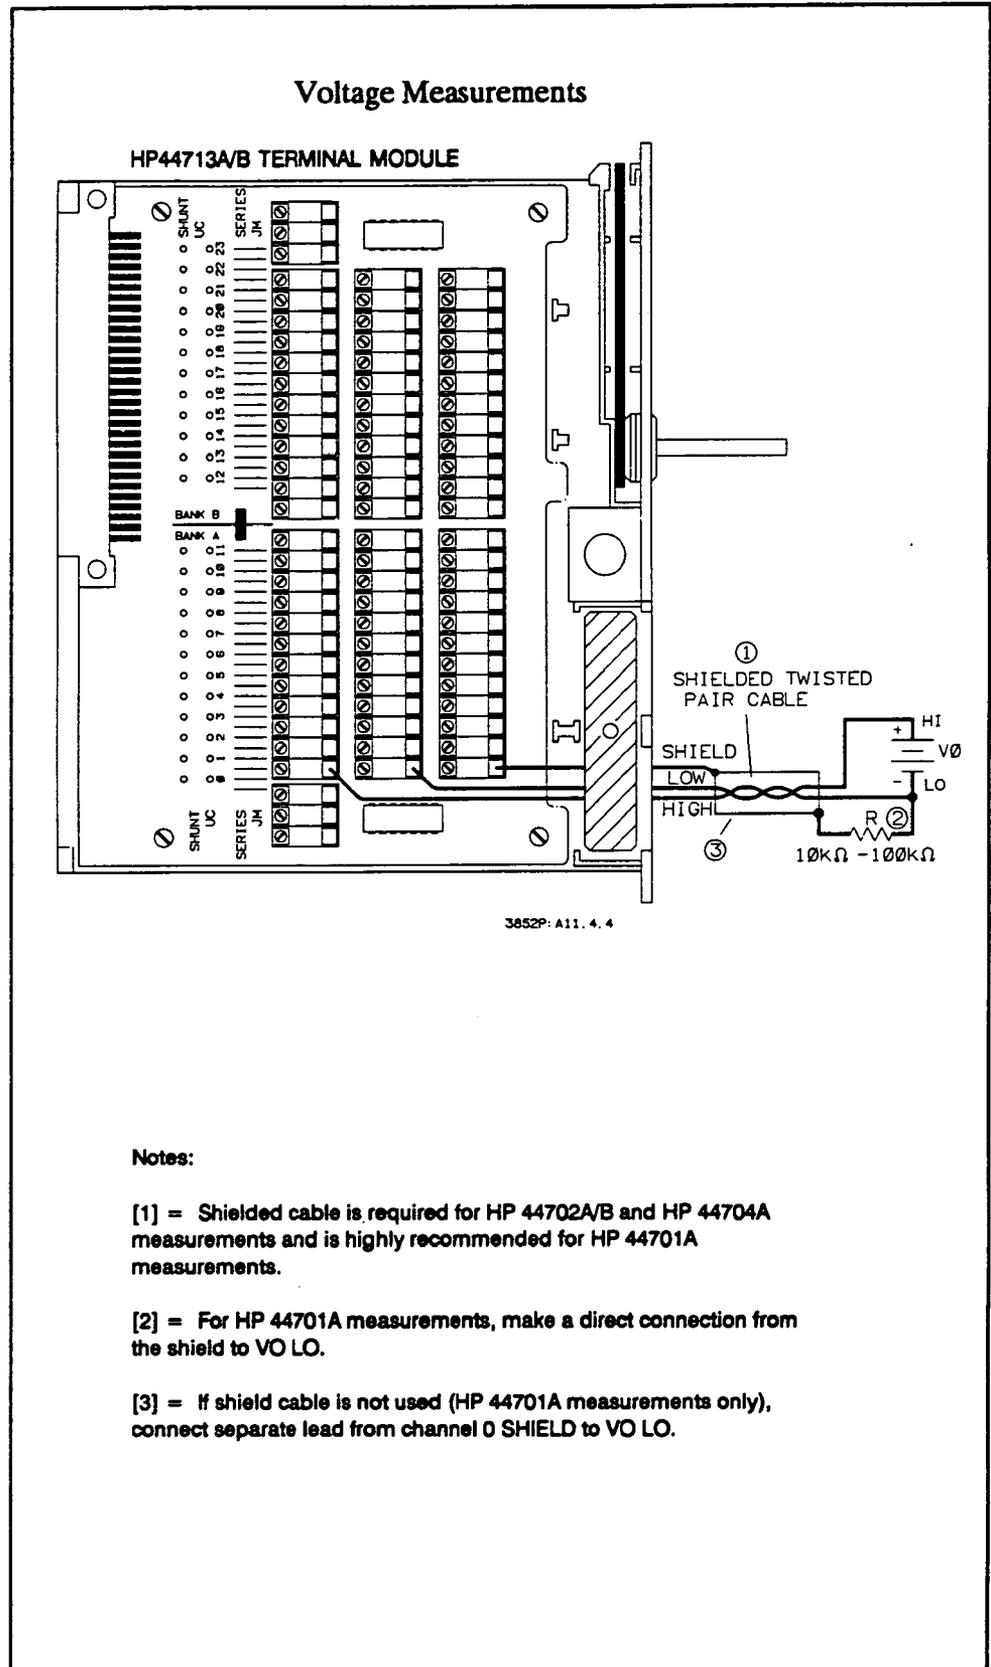
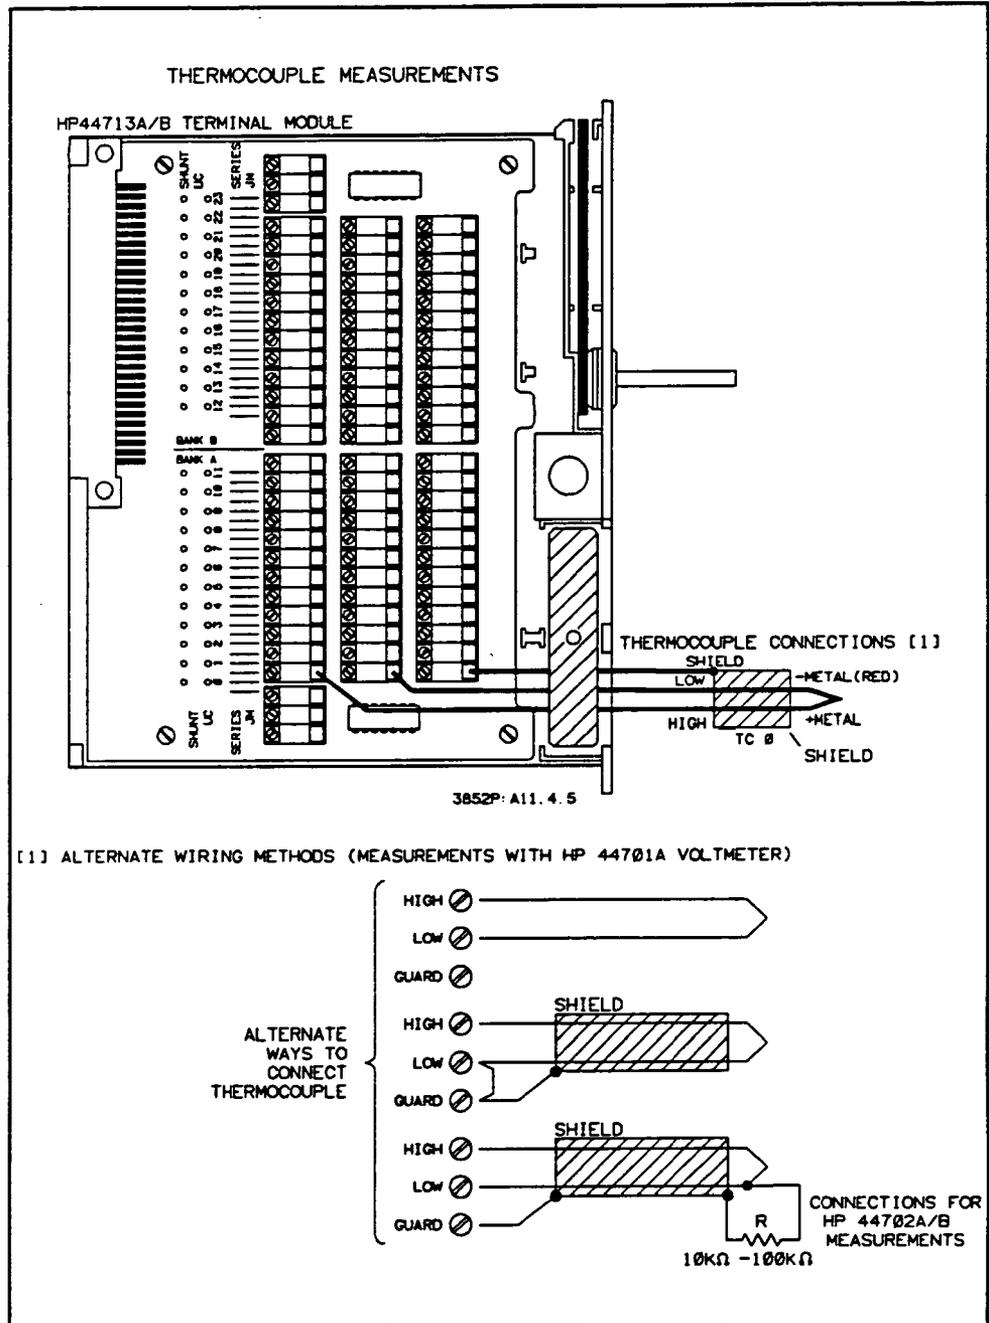

Figure 4-4. HP 44713A/B Voltage Connections
Figure 4-5. HP 44713A/B Thermocouple Connections
Figure 4-4 shows typical voltage measurement connections to channel 0 on the terminal module. Note that shielded cable is required for measurements with the HP 44702A/B and HP 44704A voltmeters and is highly recommended for measurements with the HP 44701A voltmeter. For the HP 44702A/B or HP 44704A voltmeter, connect an external resistor (R) between V0 LO and the shield, as shown in Figure 4-4.
See Figure 4-5 for example thermocouple (TC0) connections to channel 0. Connect the negative metal lead (red lead) to channel 0 LOW and connect the positive metal lead to channel 0 HIGH. If high common mode noise rejection is required, connect the shield lead from the thermocouple to channel 0 SHIELD.
Refer to Figure 4-4 in the *Configuration and Programming Manual* for details about connections for DC Voltage measurements. Figure 4-5 in the *Configuration and Programming Manual* shows thermocouple connections.